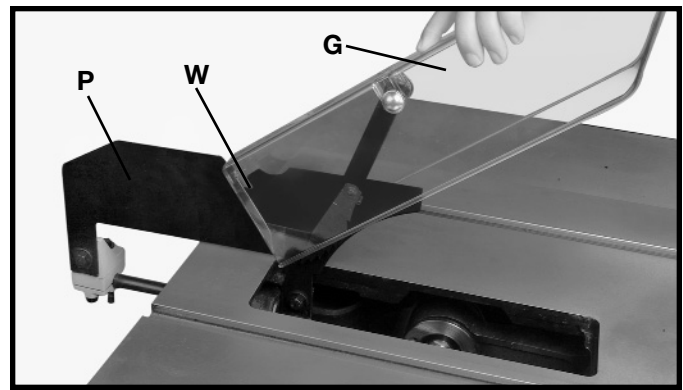

Fig. 19
9. **IMPORTANT:** The splitter (P) Fig. 19, features a notch (W) cut into the top edge. Raise the front of the clear blade guard (G) Fig. 19, until the rear edge of the guard slips into notch (W) of the splitter. This notch enables the blade guard to stay in the raised position and makes changing blades easier.